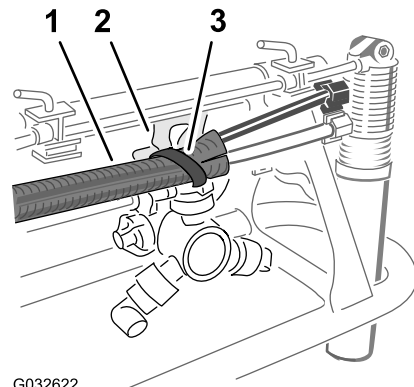

Figure 25
5. Secure the tube assembly to the hole in the nozzle support with a cable tie as shown in Figure 25.